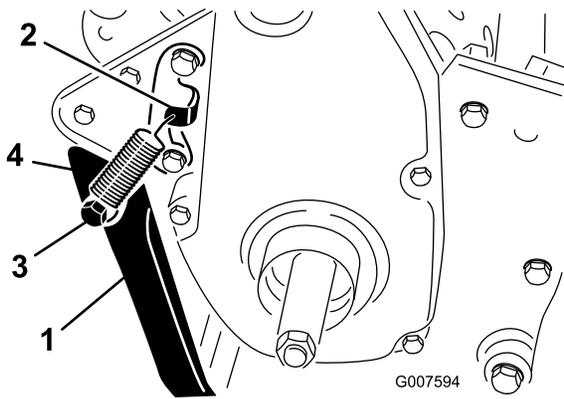

Figure 6
2. Hook the spring into the hole in the spring bracket and onto the spring stud while aligning the kick stand with the mounting holes in the rear frame (Figure 6).
3. Mount the kick stand to each side of the frame with a bolt, lockwasher, spacer, flat washer and locknut (Figure 6). Position the spacer in the kick stand mounting hole.